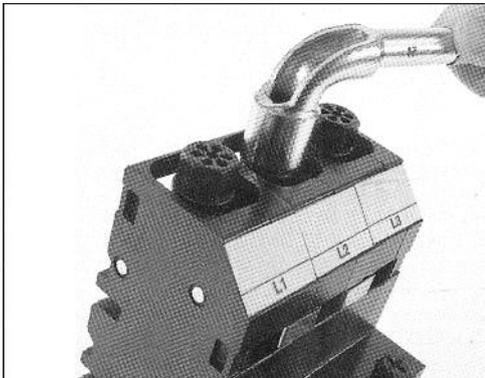

Fig 2
- Tighten shear head bolts on cassette using a 17mm A/F socket or ring spanner (Fig 2).